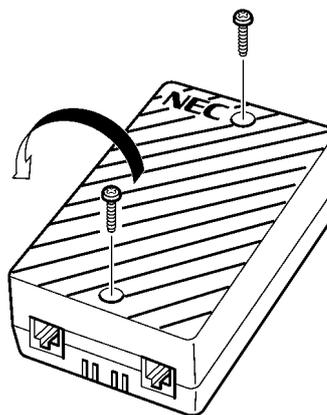

Figure 7-56 Removing the Screws from the SLT(1)-U13 ADP
1. Remove the two screws from the top to open the SLT adaptor as shown in *Figure 7-56 Removing the Screws from the SLT(1)-U13 ADP*.